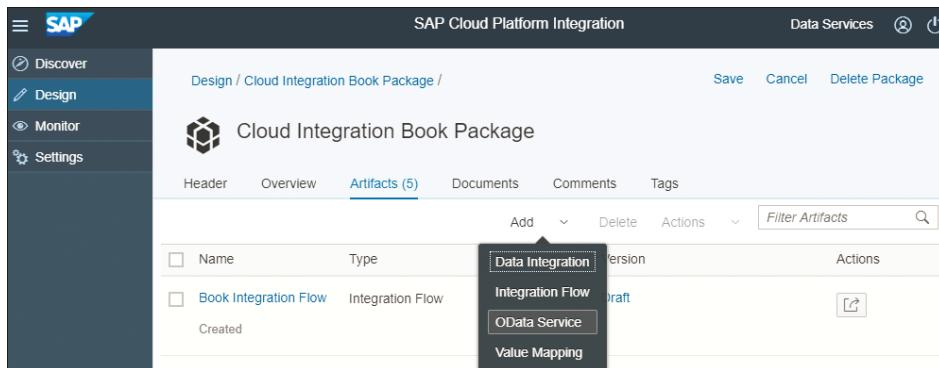

Figure 4.96 Creating an OData Service Artifact
1. From the **Design** tab of your SAP Cloud Platform Integration tenant (left side of Figure 4.96), go to the respective package, and switch to the edit mode.
2. Select the **Add** button, and then click **OData Service** from the resulting menu (see Figure 4.96).